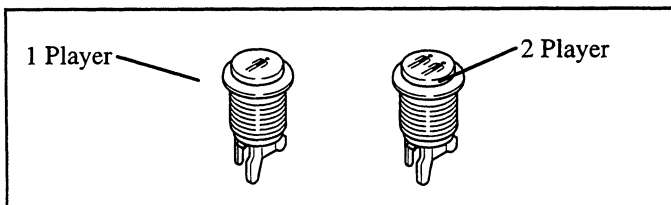

FIGURE 3
16. Notice that there are two white buttons. (See Figure 3.) Install the PLAYER ONE button on the top left-hand side of the control panel, and the PLAYER TWO button on the top right-side of the control panel. The WHITE buttons are START buttons.